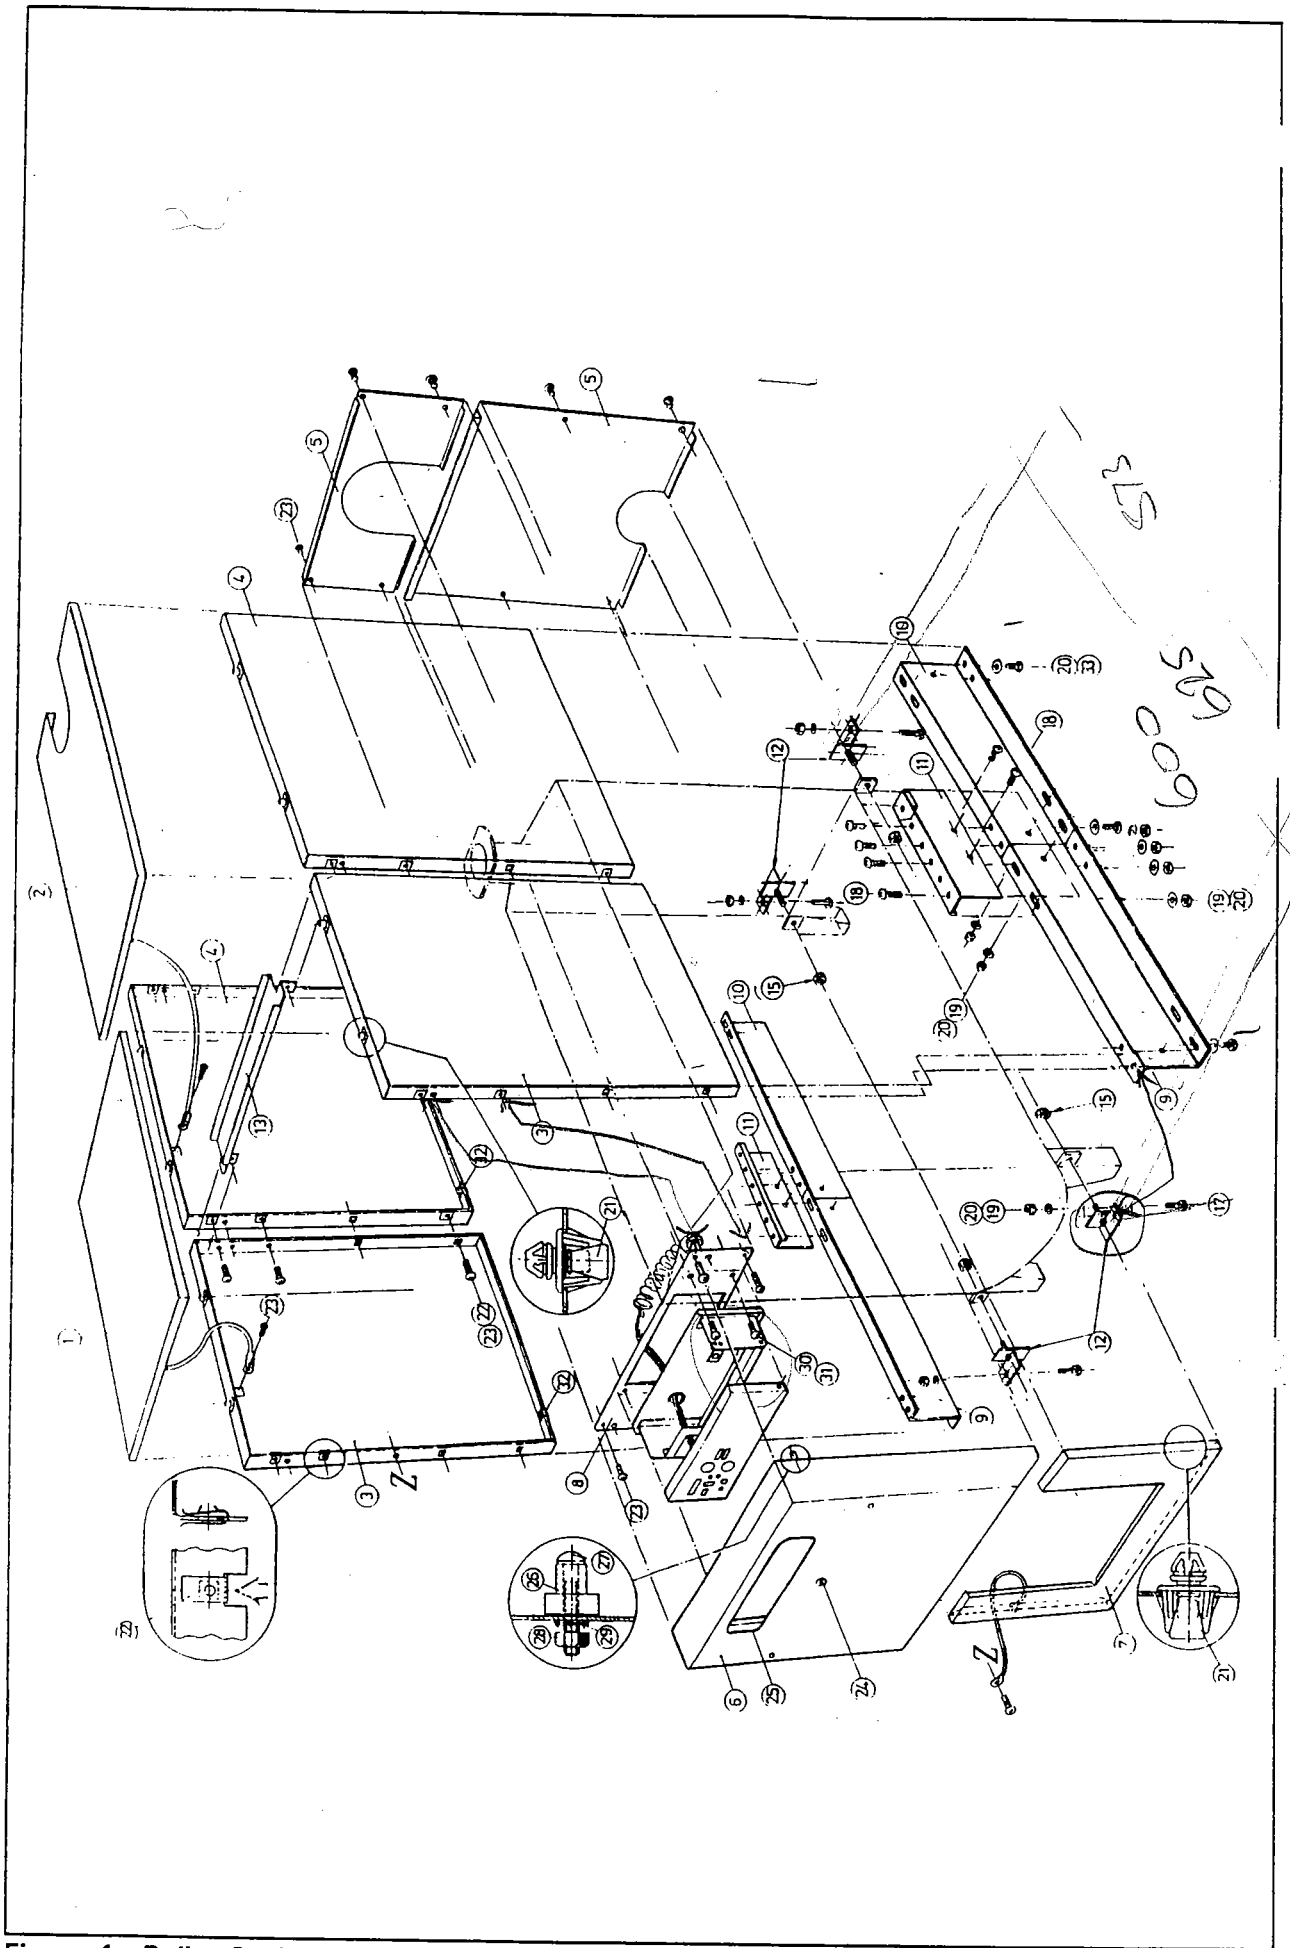

Figure 4 - Boiler Casing Assembly
Refer to Figure 4 (Page 14)
a. Attach the casing support brackets (item 12) to the boiler, securing them with M10 nuts (items 15), through the holes at the sides of the front and rear casing sections locate on the outer faces.
Assemble the 2 casing support rails (item 9 and/or 10) utilising the rail connectors (item 11) and 6 off M6x12 screws, nuts and shakeproof washers (items 18, 19 & 20) per rail assembly. Note correct orientation of rails on Figure 4. Holes and slots must be in the positions shown.
c. Attach the 2 casing support rails to the front and rear brackets with 2 off M6x15 set screws, nuts and shakeproof washers (items 17, 19, & 20) per side. Ensure the rails rest on top of the brackets.
m. Fit 4 off latches (item 21) to the lower front cover panel (item 7) complete with the 4 matching strikers.
o. Fit the hole marked 'Z' on Figure 4 with a No. 8 'U' nut (item 22). Secure the earth cable from the lower front cover panel to this fixing with a No. 8x½" screw (item 23).
p. Fit 6 off location pins (item 26) to the casing door (item 6) securing with 6 off M4x20 screws, nuts and shakeproof washers (items 27, 28 & 29).